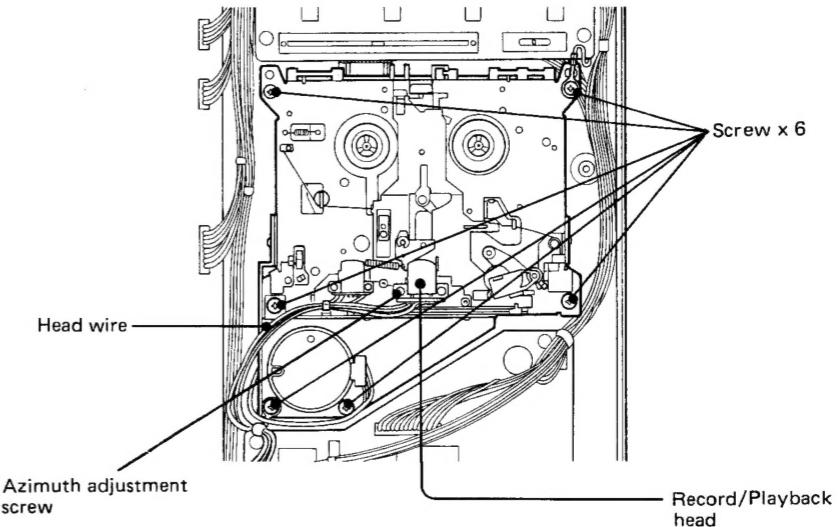
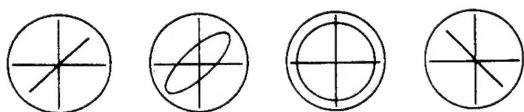

Fig. 7-2 Mechanism Assy
Fig. 8-4
Remove the top case and pull off the six screws holding the mechanism assembly mounted on the bottom case. (Fig. 7-2)
- 3) First reproduce a test tone of 315 Hz, and coarsely adjust the azimuth adjusting screw (Fig. 7-2) to obtain approx. zero phase difference as shown in the Fig. 8-4. Next, reproduce a high frequency tone of 10 kHz and proceed to the fine adjustment.
- d) Adjust the trim pot RM09 (RM11) (Refer to Fig. 7-2) provided on the CPU PCB with a small "—" driver to obtain  $3000 \text{ Hz} \pm 5 \text{ Hz}$  reading on the frequency counter.